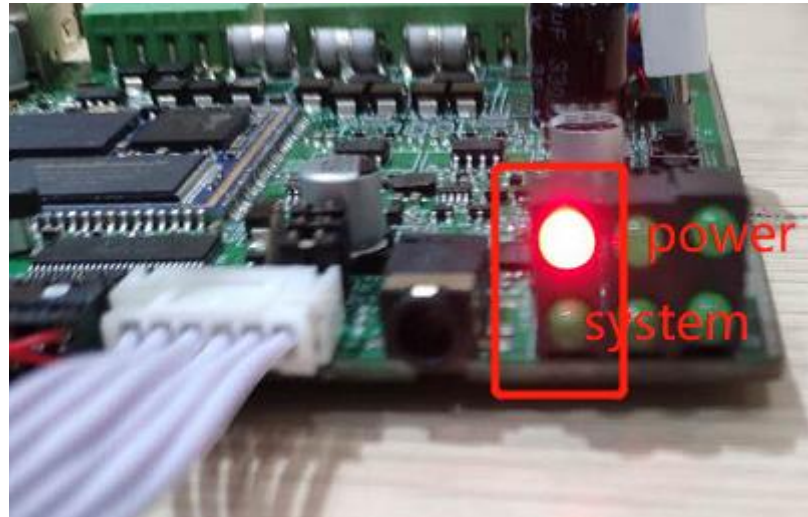

Figure 4. Power Indicator Lamp and System Operating Lamp
- 2) After power-on, the position shown in Figure 4 shows that the red LED power lamp is always on, and the green LED lamp keeps flashing, indicating that the system is running normally.